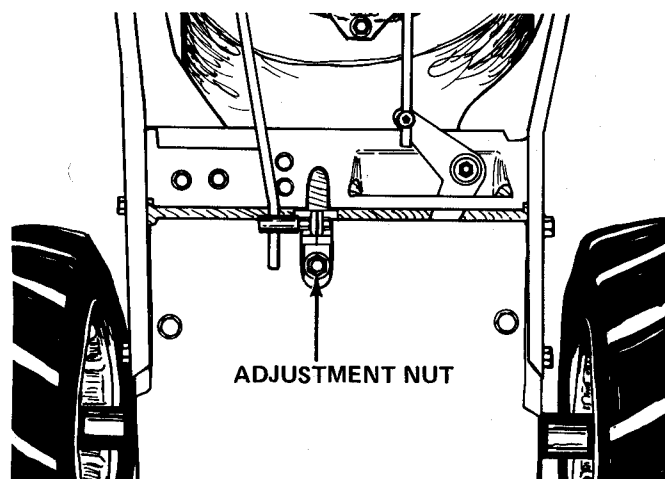

FIGURE 5
See Figure 5. Adjust as follows: Shift to REVERSE. Tip machine forward on blower housing and brace securely. Tighten the adjustment nut while turning the wheels until the wheels begin to bind. Back off 1½ turns. Wheels should then turn easily.
- Replace the bottom cover. Readjust the drive disc as described in the DRIVE DISC ADJUSTMENT on page 5, Figure 5.